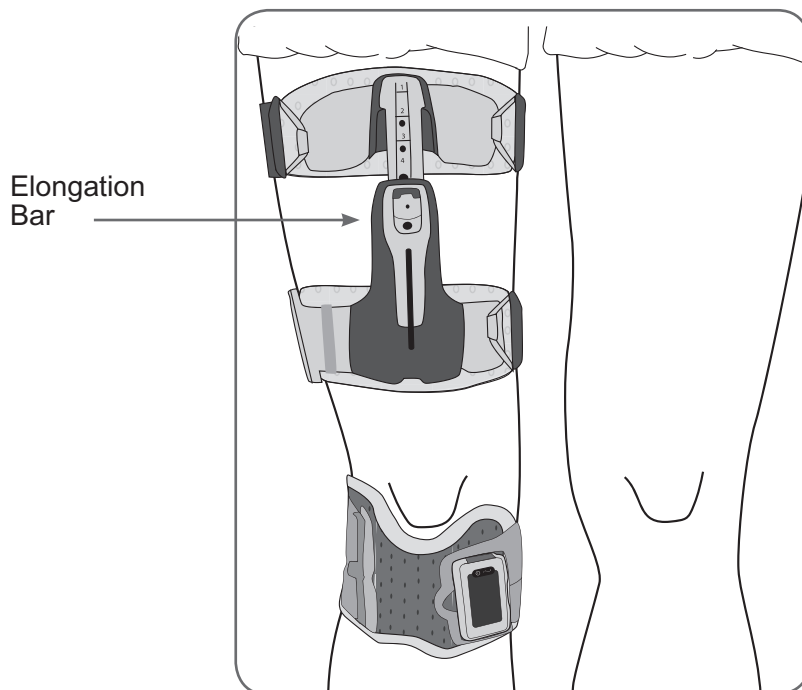

Figure 7-6: Thigh FS Cuff correctly positioned on the quadriceps.
4. Center the elongation bar on the midline of the thigh. See Figure 7-6.